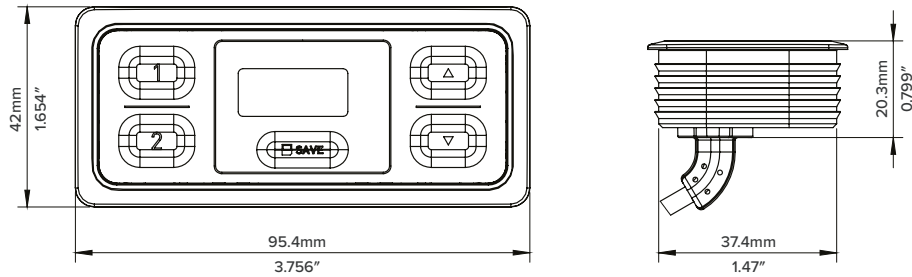

Fig. 6: Product dimensions, TOUCHinlay-KM
2. Insert the Strain Relief into the designated slot on the Handset (Fig. 6).